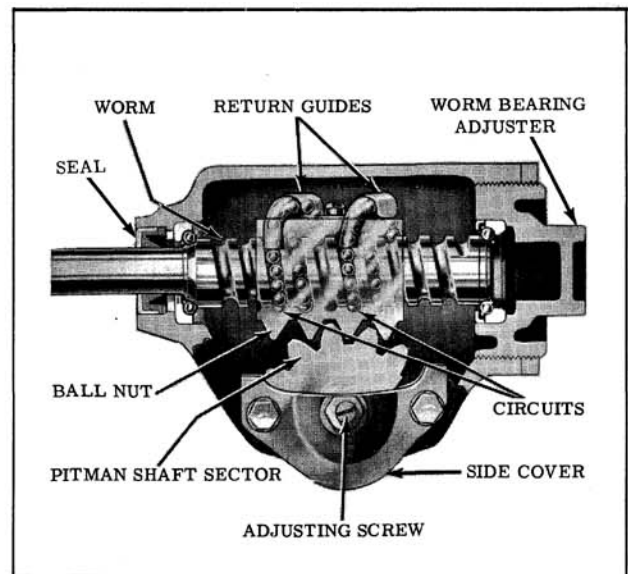

Fig. 8-7 Manual Steering Gear
## MANUAL STEERING (Fig. 8-7)
2. Loosen pitman shaft adjusting screw locknut and loosen adjusting screw a few turns. (Fig. 8-7)